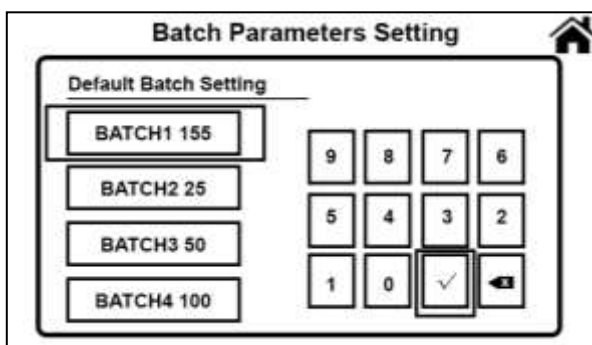
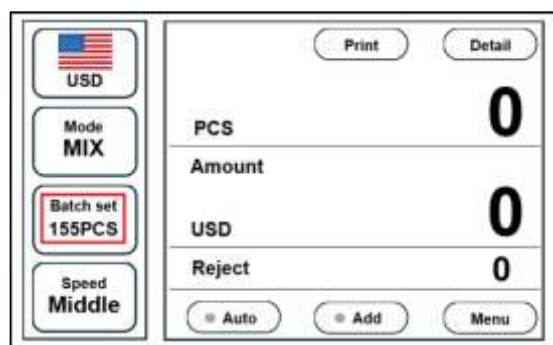

Figure 36
Figure 37
- Then click the number keys 1-5-5 on the right side, and then click "✓" to complete the setting, as shown in Figure 36. The number in the main interface changes to "Batch set 155pcs", as shown in Figure 37.